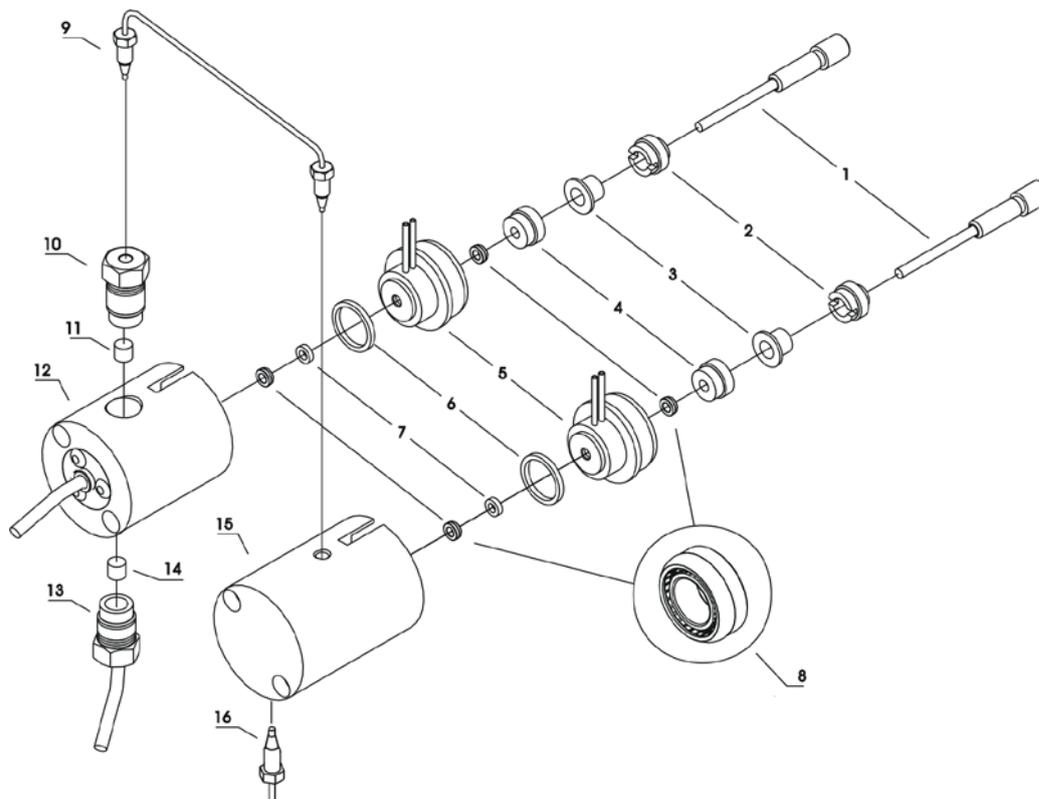

Fig. 42: Pump heads, pistons, and piston seals (here: HPG-3200P)
- Loosen the piston retainer (→ Fig. 42, no. 2, page 116), using the slotted screwdriver from the pump accessories kit, and remove the piston from the enclosure.